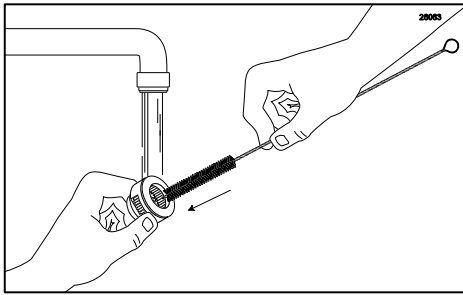

Figure 31
3. Brush and clean all exposed surfaces of the Gear Cartridge with detergent water, then rinse thoroughly. (See Figure 31.)